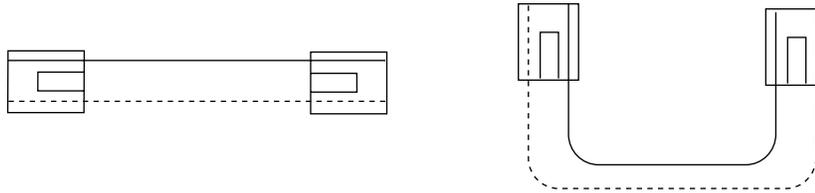

Figure 8
**3.1** An alternate technique that will also maintain transmitter to receiver polarity is called “Consecutive Fiber Positioning” (CFP). This technique uses the same RFP jumpers in the front of each patch panel as previously discussed. Figure 8 illustrates the RFP jumper again.